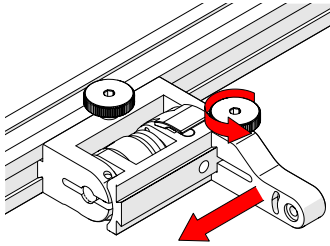

Fig. 171 - Position swing arm
5. Loosen the swing arm knob and slide the swing arm to the opposite end of the probe holder bracket (*Fig. 171*) or preferred position. Tighten the swing arm knob.